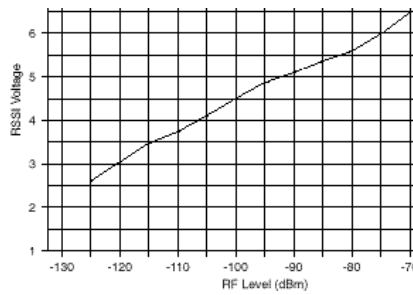

Figure 29 - T835, RSSI Curve: Volt to dBm
- Vary the RF level in 15dB steps and check that the RSSI output voltage (SK1 pin5) changes at a rate of a 15dB/V ($\pm 0.30\text{VDC}$) over the range of -120 dBm to -80dBm (see Figure 29). If the requirement cannot be reached, contact your Dataradio technical support.